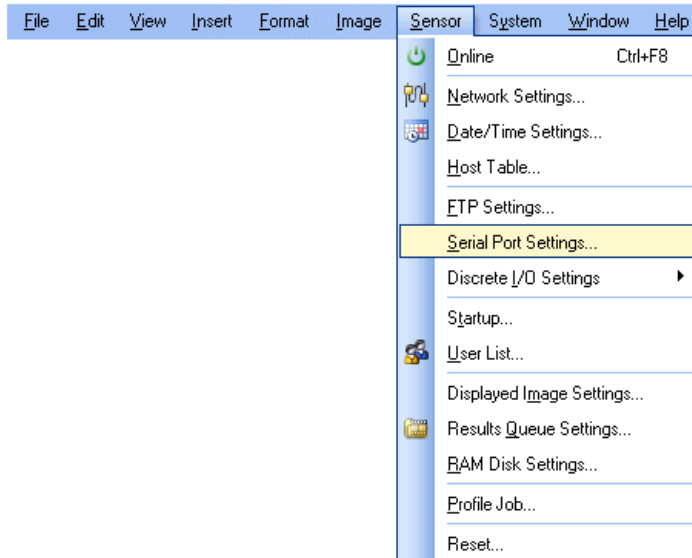

Figure A-3: Accessing the Serial Port Settings
3. From the Sensor menu (Figure A-3), select Serial Port Settings.